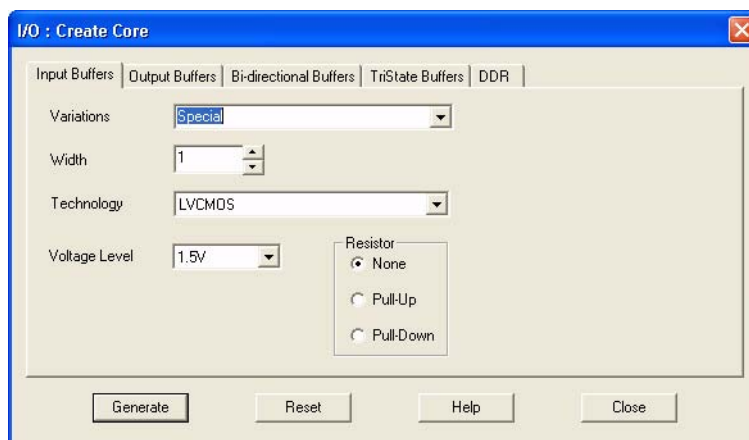

Figure 8-4 • I/O Create Core Window
- Double-click any of the varieties. The I/O Create Core window opens (Figure 8-4).
As seen in Figure 8-4, there are five tabs to configure the I/O macro: Input Buffers, Output Buffers, Bidirectional Buffers, Tristate Buffers, and DDR.
The **Special** variation has Width, Technology, Voltage Level, and Resistor Pull-Up/Down options (see Figure 8-4). All the I/O standards and supply voltages (V_{CC}) supported for the device family are available for selection.